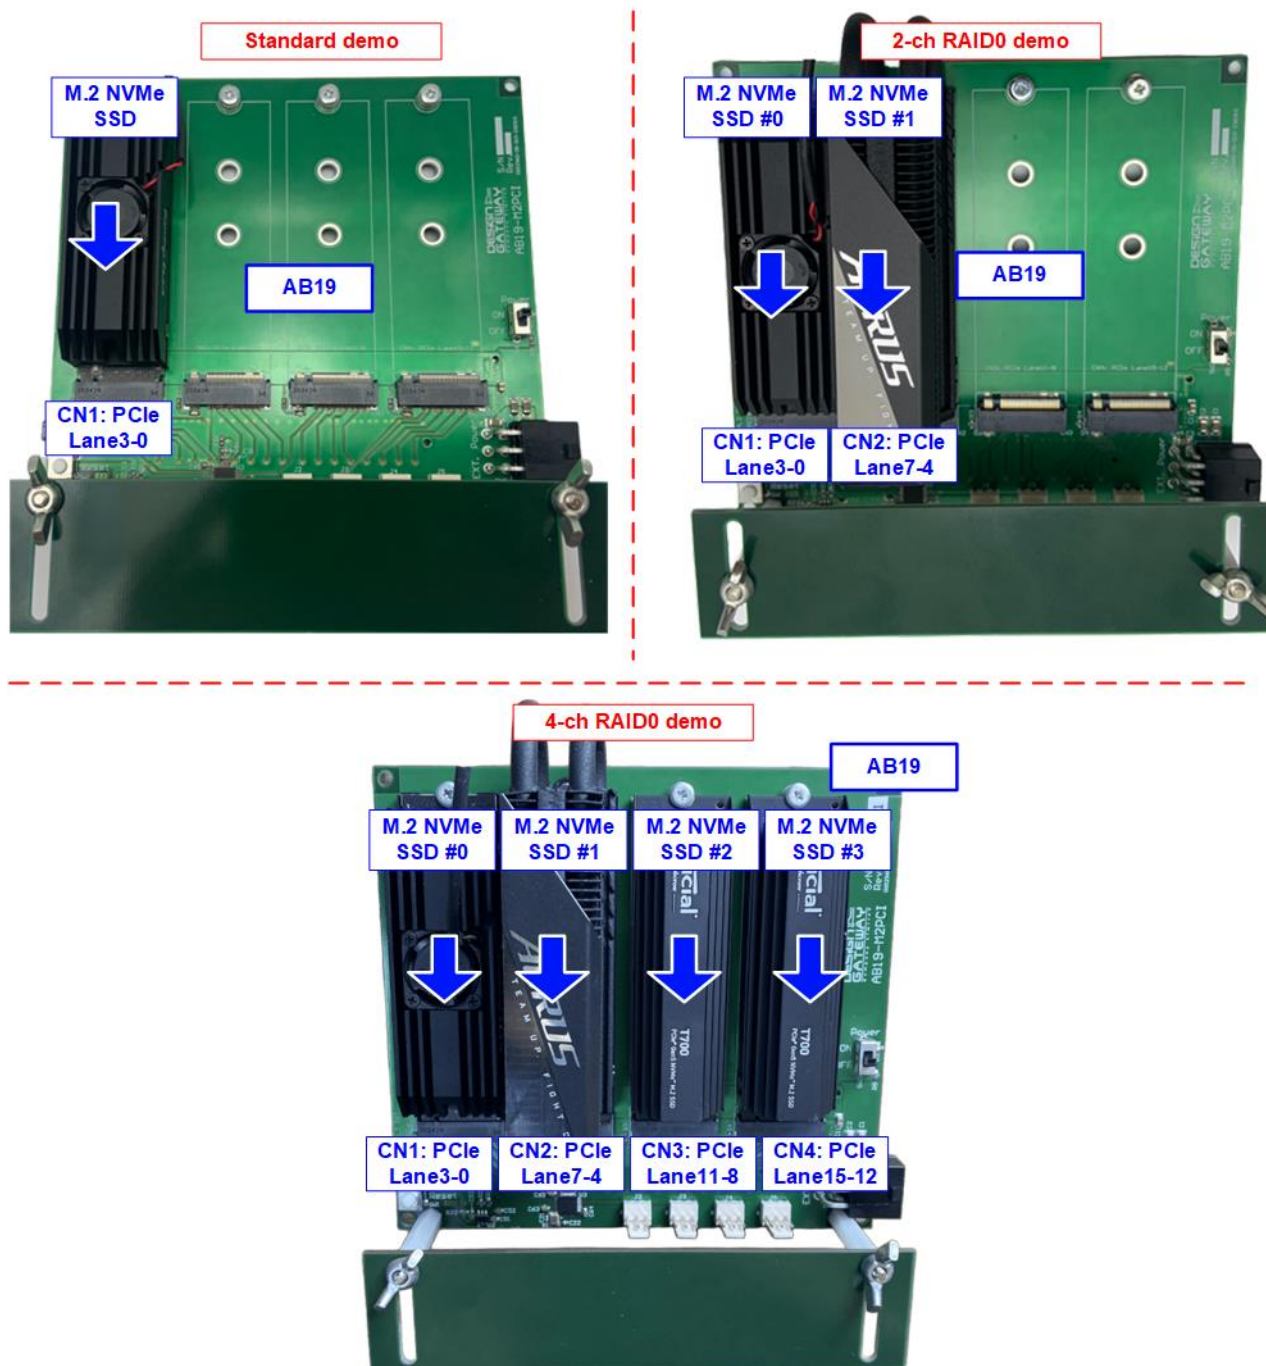

Figure 2-3 Connect NVMe SSDs to AB19
- ii) Connect the NVMe SSDs to the AB19 board, as shown in Figure 2-3.